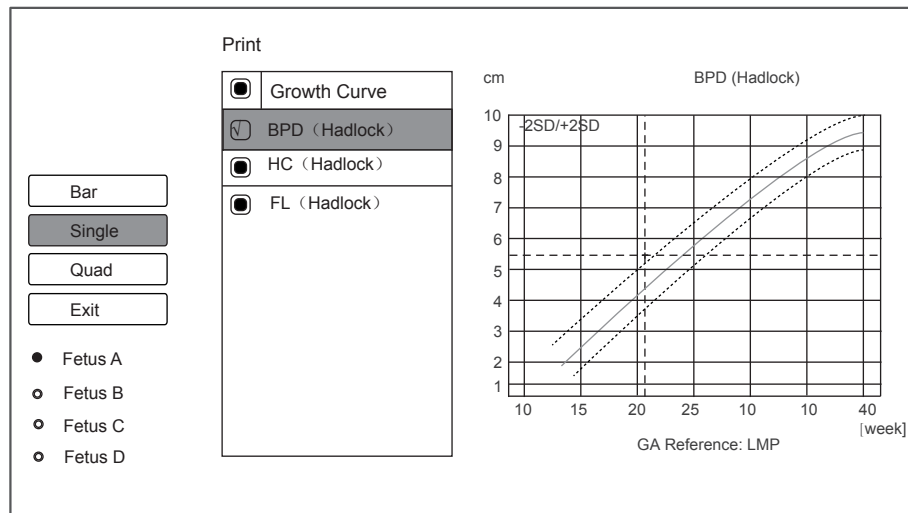

Figure 11-2 Fetal Growth Curves
3. Select the desired measurement item and the corresponding fetal growth curve is displayed on the screen, as shown in Figure 11-2.